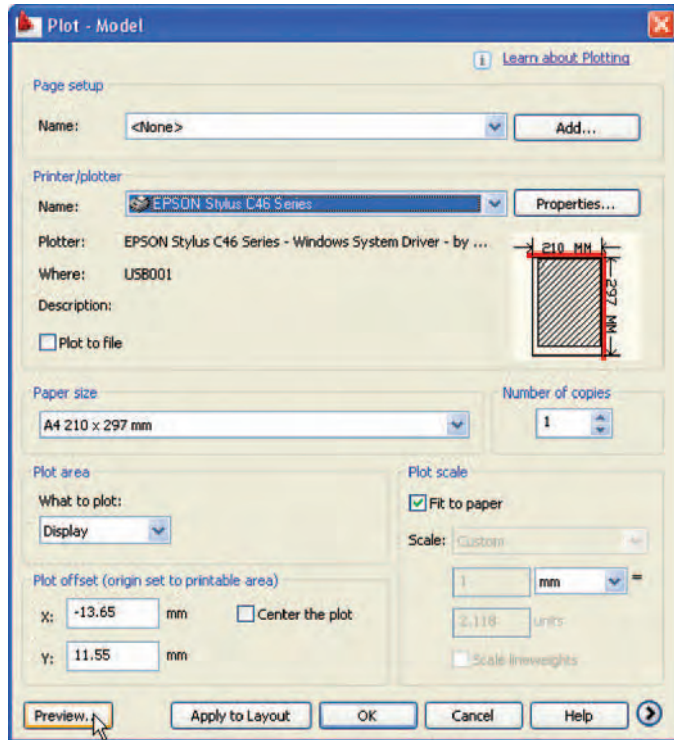

Fig. A.4 The Plot dialog
1. Either select **Plot** with a *click* on icon in the **Output/Plot** panel (Fig. A.3) or from the **File** drop-down menu. The **Plot** dialog appears (Fig. A.4)